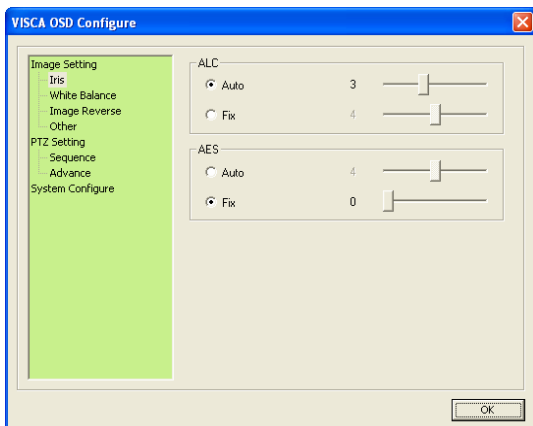

Figure 1-17
- **Load Camera Default:** Loads the factory default setting of Iris, White Balance, Image Reverse and Other in the VISCA OSD Configuration dialog box (Figure 1-17).